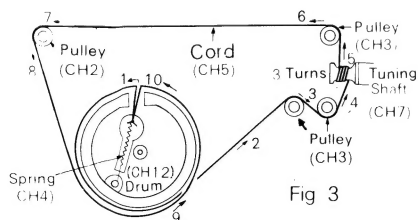

Fig. 3
3. Arrows (1~10) indicate correct order and direction of installation as illustrated in Fig. 3.